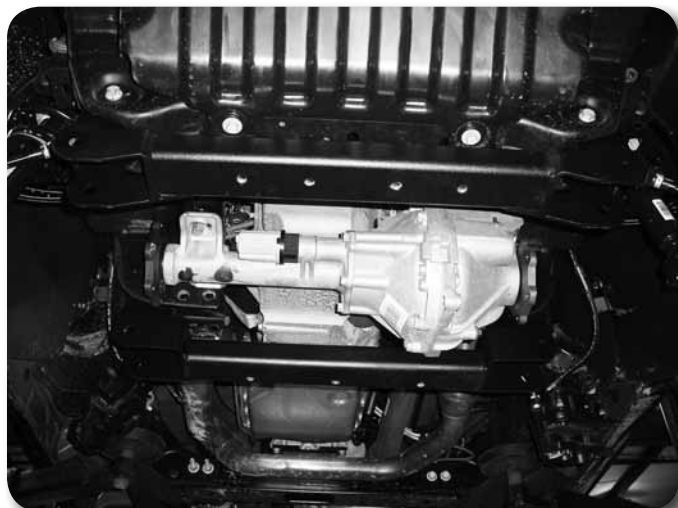

Figure 21
36. Install the new rear crossmember with the factory lower control arm bolts, nuts and washers. When installed the rectangular cross tube should offset closer to the rear of the vehicle **Figure 21**. Run the bolts from front to rear. Leave hardware loose.
37. Install the front crossmember in the control arm pockets with the factory lower control arm bolts, nuts and washers. When installed the offset in the crossmember ends should be toward the front of the vehicle **Figure 21**. Run bolts from front to rear. Leave hardware loose.